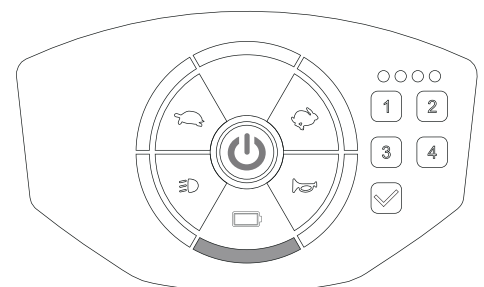

Figure 10
- The light will be showing the battery status or errors of scooter. If scooter has errors, the light indicator will be flashing (see section 8). This light indicator is also the indication of battery status (see section 6-3). (Figure 10)